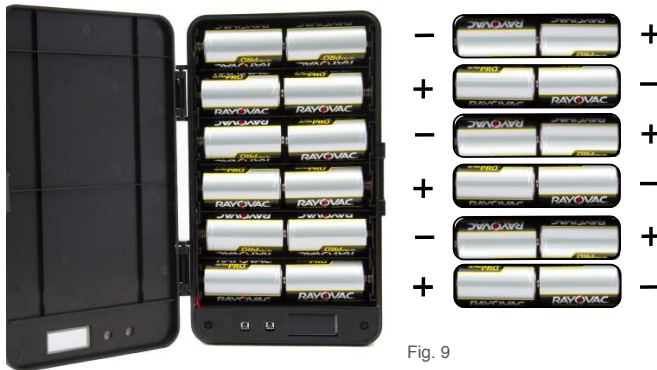

Fig. 9
G. Utilize [Fig. 9] to begin installation of D-Cell Alkaline Batteries. Make sure that battery orientation follows the example shown in [Fig. 9] below. Negative Terminal of D-Cell Battery should always contact with DCell BBU "Springs". Never install Negative terminal of D-Cell Battery in with orientation to contact opposing Negative terminal of another D-Cell Battery in line. Never install Positive terminal of D-Cell Battery in with orientation to contact opposing Positive terminal of another D-Cell Battery in line. Device is rated and approved for use with standard non-rechargeable Alkaline DCell Battery ONLY. DO NOT INSTALL RECHARGEABLE ALKALINE BATTERIES, NIMH OR LITHIUM BATTERIES.